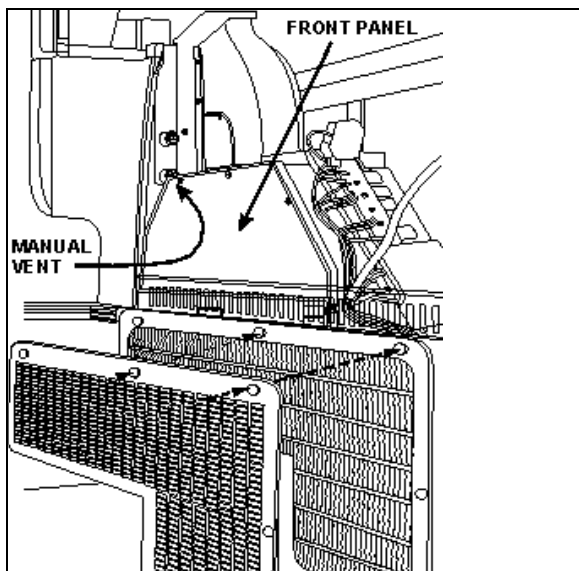
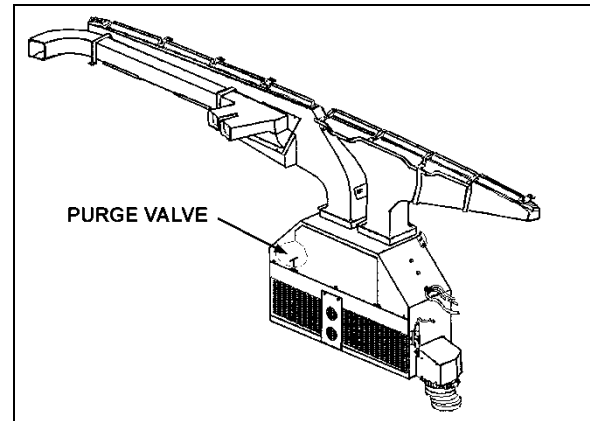

FIGURE 73: DRIVER'S HVAC/DEFROST UNIT
FIGURE 74: DRIVER'S UNIT AIR MIXING BOX 22171PV
Fresh air is taken from behind the R.H. side headlights assembly (H3 series) or from a plenum underneath the front service compartment (X3 Series) and enters the mixing box through a ON/OFF damper. Return air is taken through the right console into the mixing box (Figure 74). Mixed air goes through cooling and heating coils, fans and discharge ducts.
4. From inside of vehicle, remove the two finishing panels in front of unit. Remove the three screws fixing the unit front panel. Open the purge valve located inside the driver's unit (Figure 74). If present, open the manual vent located inside the HVAC unit, on the driver's side (Figure 73) to ensure an efficient draining.
Whenever the heating system has been drained and refilled, or the system has run low on coolant and coolant has been added, it is necessary to bleed air from heating system. Locate the purge valve illustrated in Figure 74 & Figure 79, and open them momentarily until no air escapes from the lines. If present, open the manual vent located inside the HVAC unit, on the driver's side (Figure 73).